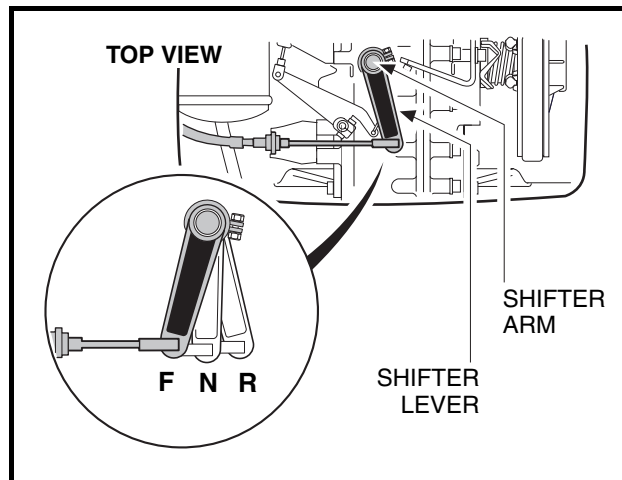

Figure 16-1 Shifter Positions
A shifter lever, connected to a shifter arm, is used to change the gears to one of three shift positions: FORWARD (F), NEUTRAL (N), or REVERSE (R) (**Figure 16-1, Page 16-2**). Bring the vehicle to a complete stop before changing FORWARD or REVERSE direction.